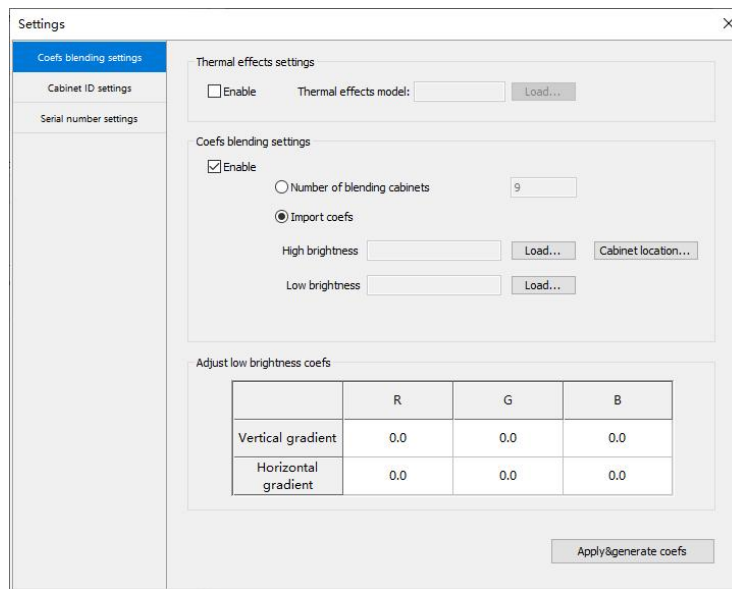

Fig.3-107 High and low brightness coefficients blending settings
- Perform high and low brightness calibration at a time: Select **Coefs blending settings** to access the tab. See Figure 3-107.